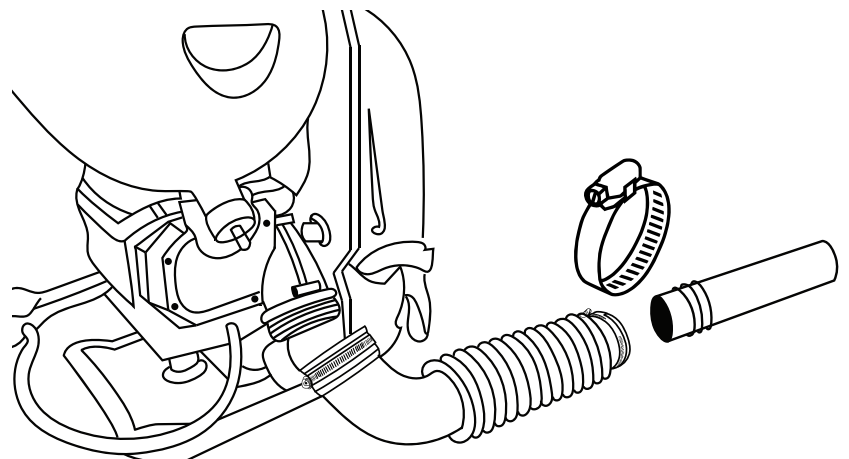

FIGURE 2
4.2.2 Attach the connecting tube to the other end of the accordion tube. Fasten in place using a phillips head screwdriver and the hose clamp. **FIGURE 2.**